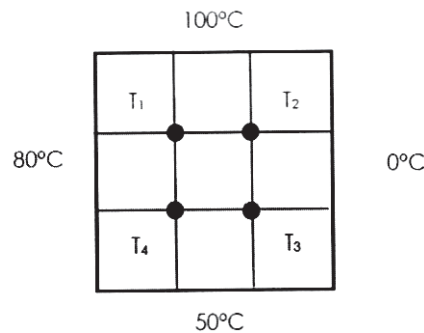

Figure Q8b
b) A steel plate of $300\text{mm} \times 300\text{mm}$ has its four sides held at $100, 80, 50$ and 0°C , as shown in Figure Q8b. Calculate the steady state temperature distribution at interior points (temperatures T_1, T_2, T_3, T_4) assuming a grid size of 100mm . [10]